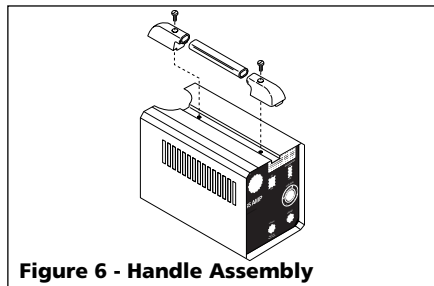

Figure 6 - Handle Assembly
1. Slide handle into plastic ends as shown (Fig. 6).